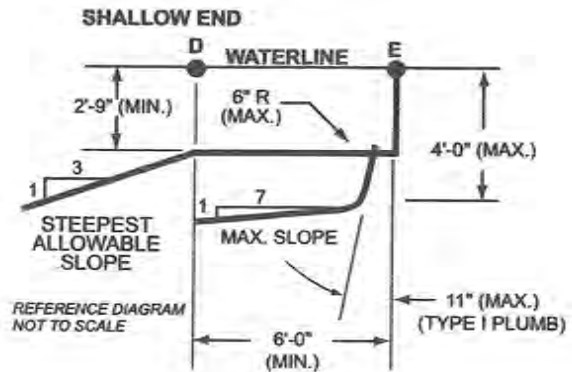

Figure 5 – Shallow end depths
5.6.1 The slope of the floor from the shallow end wall towards the deep area shall not exceed 1 foot in 7 feet (30 cm; 213 cm) to the point of the first slope change as shown in figure 5.
5.7 Shallow end water depths. Water depth in the shallow area shall be a minimum of 2 feet 9 inches (83.8 cm) except for those locations specified in 6.3 "Shallow End Detail for Beach and Sloping Entries." The water depth at the shallowest point shall not exceed four feet (121.9 cm) as shown in figure 5.